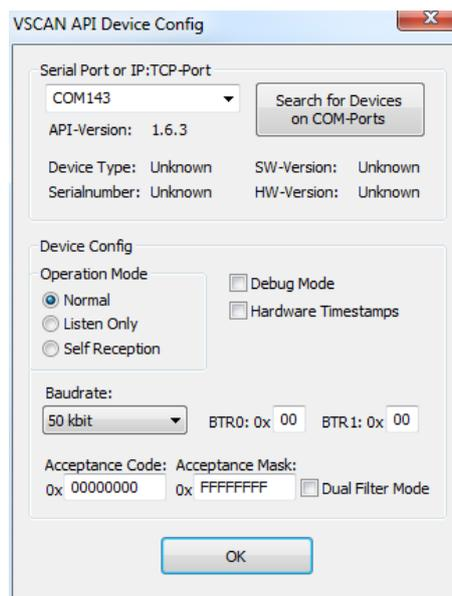

Figure 17: BUSMASTER: Configure Device
4. Click „Advanced” button to configure USB-CAN Plus device (see Figure 17). Setup COM143 as Serial Port, set Baudrate to 50kbit and Acceptance Mask to **0xFFFFFFFF**